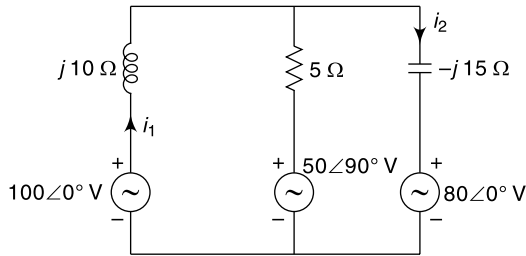

Fig. 14.86
14.98 Determine i_1 and i_2 in the circuit shown in Fig. 14.86 using mesh analysis technique.